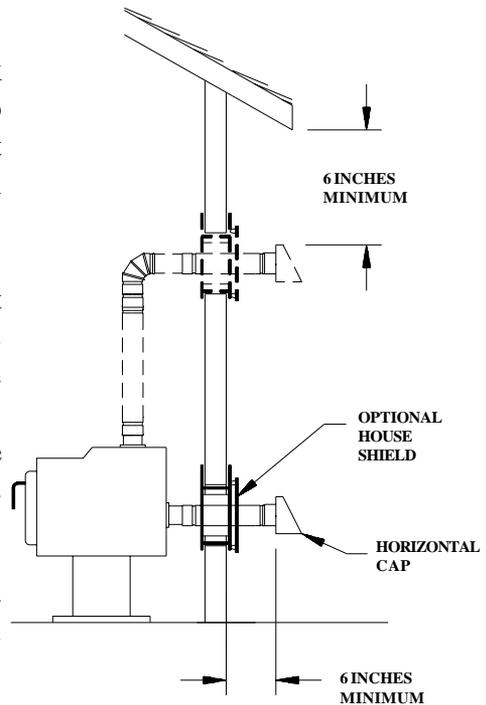

Fig 6
5. If the flue exit is on back of the stove, and a horizontal through-the-wall installation is desired: (Figure 6).
B. Connect the Pipe Adaptor to back of stove and attach sufficient pipe to penetrate Wall Thimble and extend at least 6" beyond the exterior wall. You may install the optional House Shield as shown in Figure 6. The House Shield is used to protect the exterior wall from vent discharge. Attach a Horizontal Cap. The vent Cap should be at least 6" from the wall.